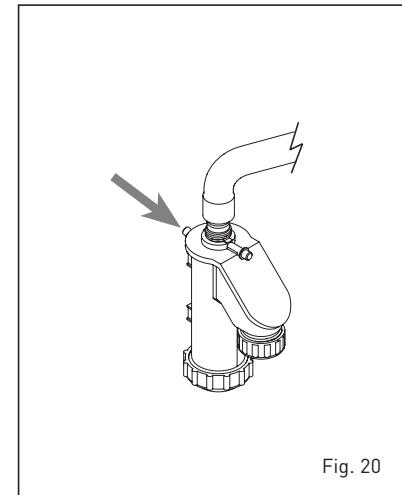

Fig. 20
4.5 MAINTENANCE (fig. 20)
Should the boiler not be used for long periods of time, it is important that the condensate trap is checked and filled if required. It can be filled via the filling vent (see fig 20).